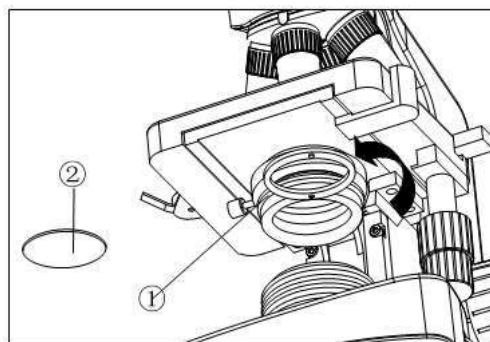

Fig.7
#### 2.2.4 Installing the color filters (Fig.7 )
1. Turn the condenser bracket ① out at the direction of arrow in Fig.7
2. Put the required filters ② into the holder on the bracket, and then turn the bracket back to the right position.